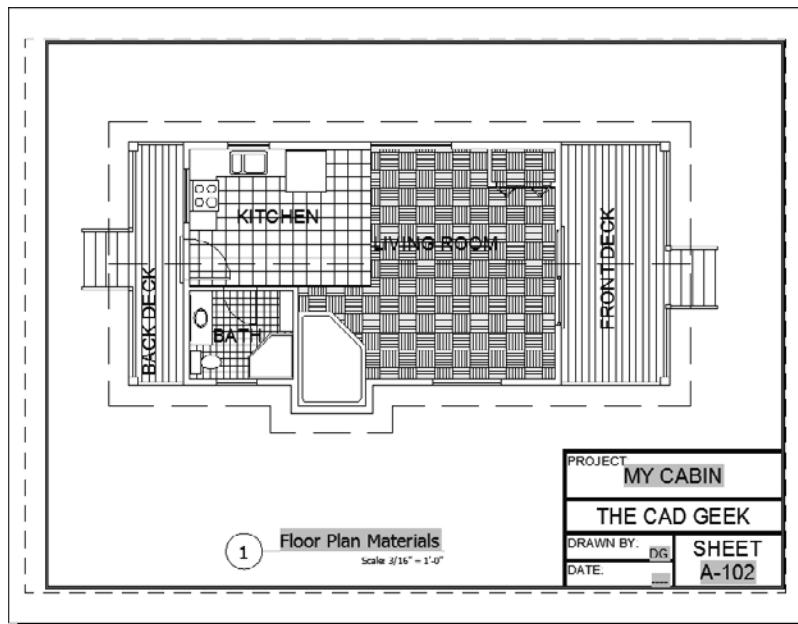

FIGURE 14.69 The A-102 Floor Plan Materials layout after the layers in the viewport are selectively frozen
6. You may choose to use the PAN command to better orient the floor plan on the Plan Materials sheet. When finished, your drawing should look like Figure 14.69.